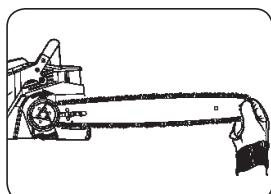

Fig. 3H
8. The chain will be tight so you will have to rotate the clutch clockwise by hand so the chain engages the bar sprocket (Fig. 3H).